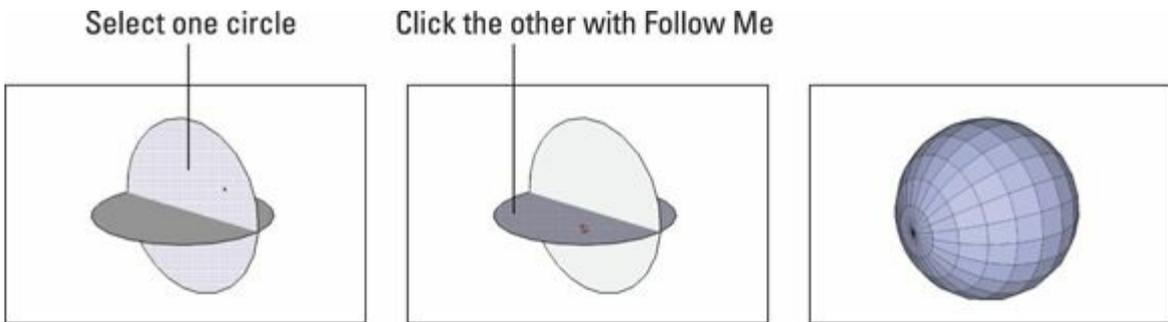

FIGURE 6-4: Clicking one circle with Follow Me while the other one is selected produces a sphere.
4. **With the Follow Me tool (choose Tools ⇒ Follow Me), click the circle that's not selected, as shown in Figure 6-4.**